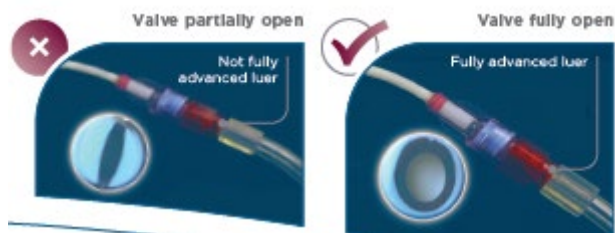

Figure 6
- 3) Insert the luer end into the LuerSafe. To ensure that the movable collar on the blood tubing is fully engaged, check that the split-septum valve within the LuerSafe is open (Figure 6).